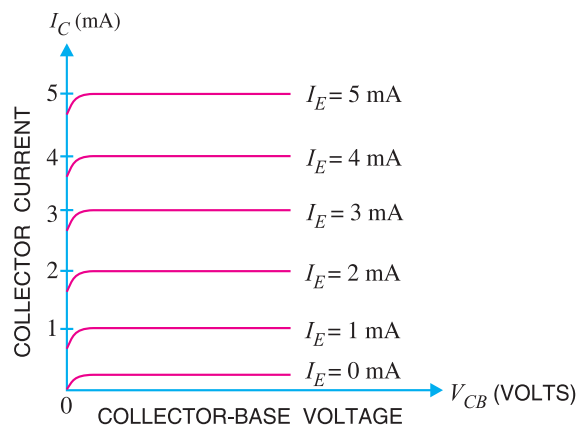

Fig. 8.15
2. Output characteristic. It is the curve between collector current I_C and collector-base voltage V_{CB} at *constant emitter current I_E . Generally, collector current is taken along *y*-axis and collector-base voltage along *x*-axis. Fig. 8.15 shows the output characteristics of a typical transistor in *CB* arrangement.